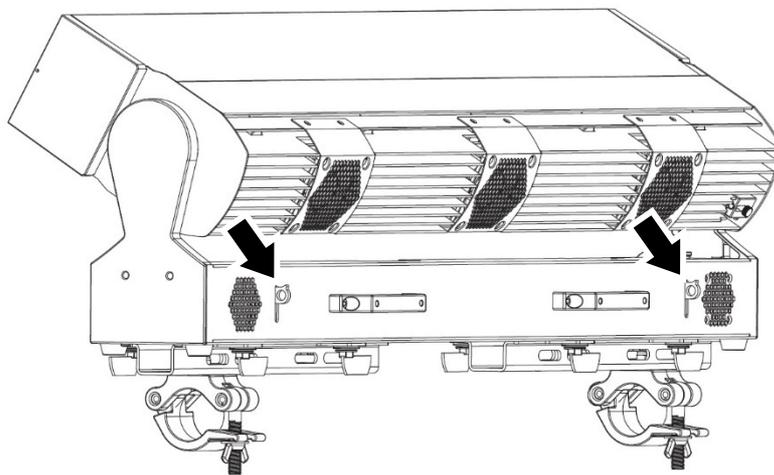

Figure 4. Safety cable attachment points
3. See Figure 4. Open one of the retractable safety cable attachment eyelets (arrowed) in the sides of the fixture and fasten the safety cable to it.